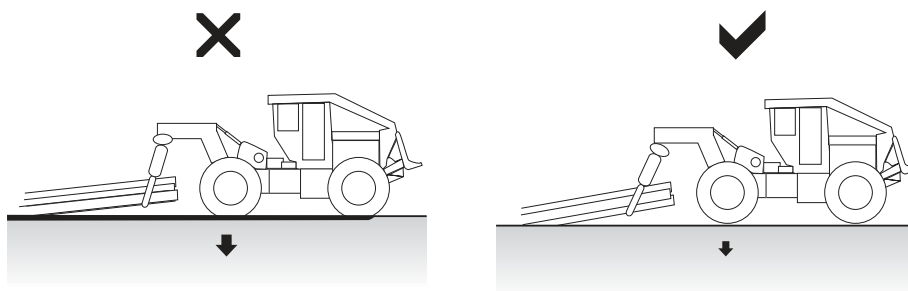

Figure 29. Reduce size of load when soil strength decreases (e.g., during or after rain).
- Skid with an optimum load size to limit the number of cycles in a block. When soil strength starts to deteriorate due to rainfall, for example, but conditions are still operable, reduce load size until conditions improve (**Figure 29**).